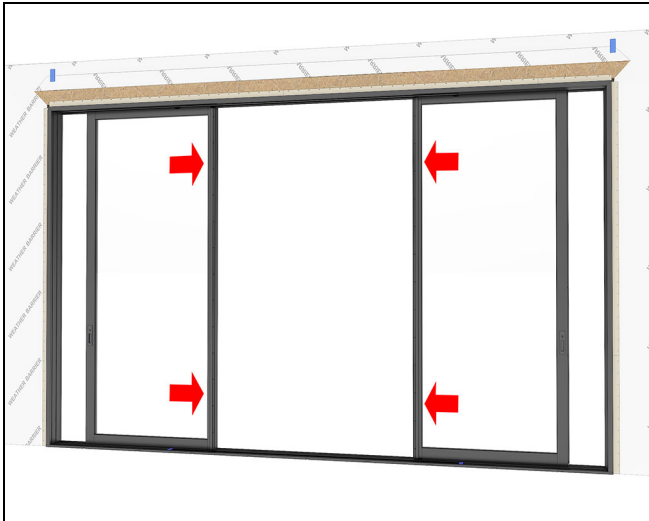

Figure 150
4. Unlock and move the operator panels away from the jambs about 12". See Figure 150.